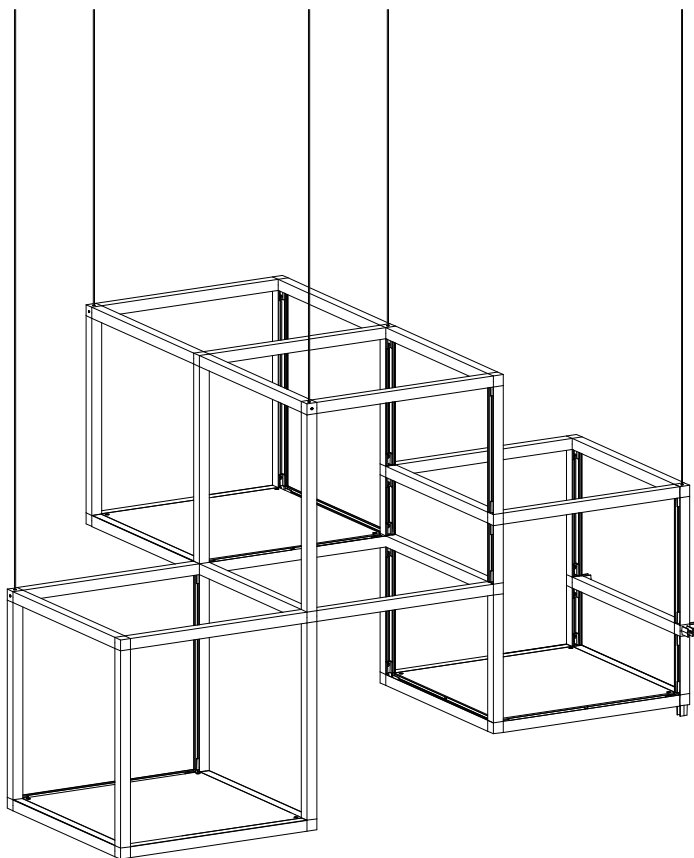

Fig. 11a
- 9a. Install (2x) 24AK12 in the orientation shown in Fig. 11a to connect the two assemblies together.